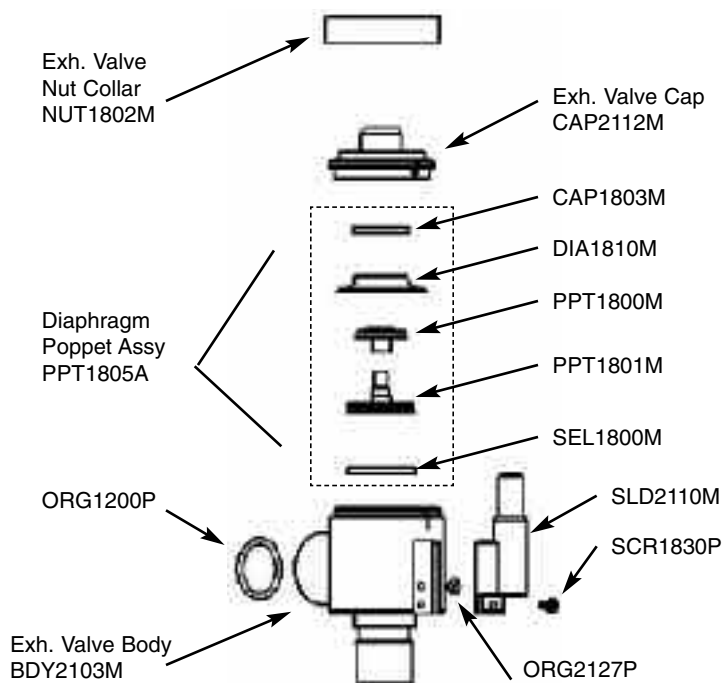

Figure 2-3 Diaphragm, Seal & O-Ring Replacement
- 5 Locate and replace O-ring (ORG1200P) inside the Exhalation Valve Body, see Figure 2-3.
- 4** Locate and replace O-ring (ORG1200P) inside the Exhalation Valve Body, see Figure 2-3.